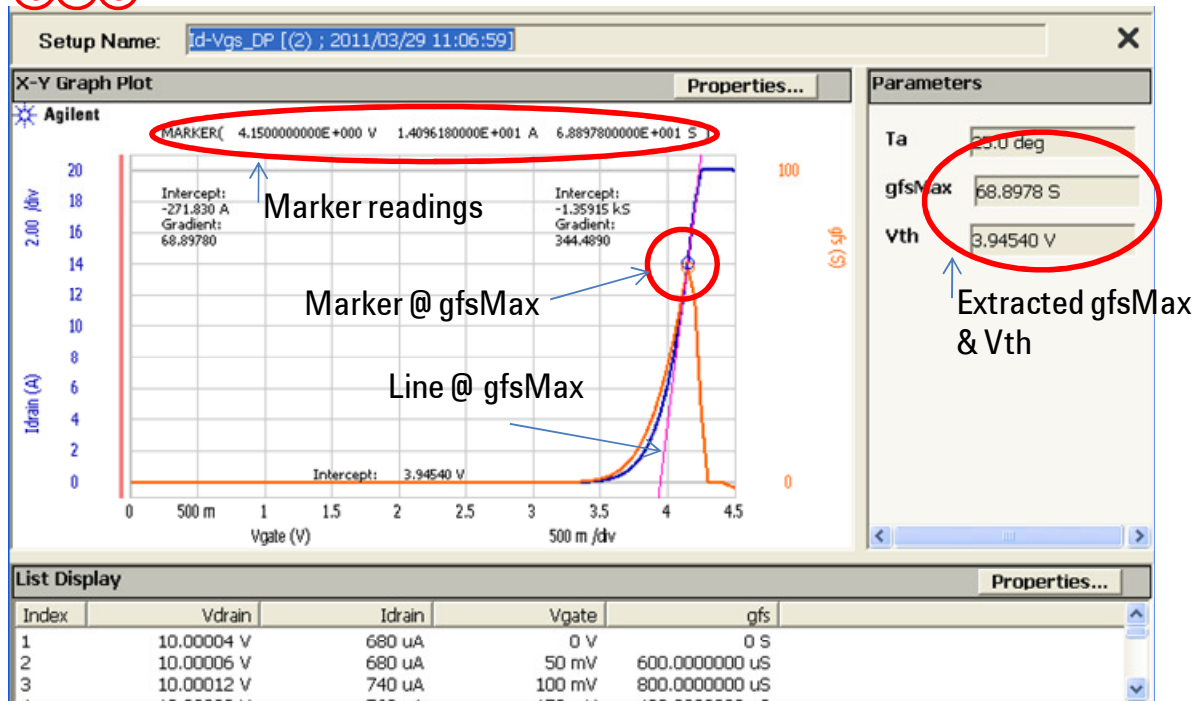

Figure 3-9. Id-VGS\_DP test display.
This test finds the Vth at the crossing of Vgs X axis coordinate of the line drawn at gm maximum point on Id-Vgs curve as shown in figure 3-9.
Step 8. You can see the Id-Vgs curve and gfs (Y2 axis) graph in figure 3-9.
Figure 3-9 plots drain current  $I_v$  in Y1 axis and gfs in Y2 axis versus gate voltage  $V_{gs}$  in X axis. Marker is automatically located to the maximum gfs point and a tangent line is drawn on Y1 axis. The X coordinate of the cross point of the line is defined as the  $V_{th}$ . Maximum gfs and  $V_{th}$  appears on Parameter display as shown in marked by circles on the figure.
Step 20. You can see the Id-Vgs curve and gfs (Y2 axis) graph that is the same as figure 3-9.
Note: Step 19 and 20 are the same as the step 7 and 8 of figure 3-9.